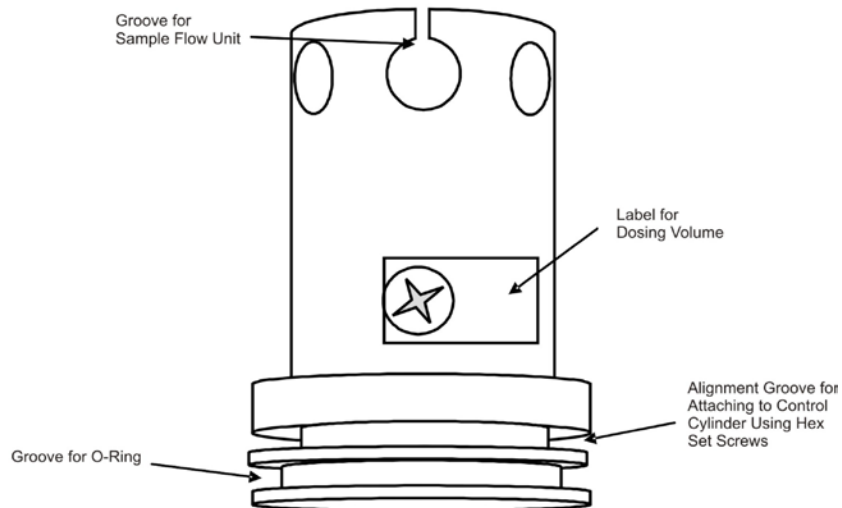

Figure 4-52: Liquid Injection Valve Body
3.	<p>This step is only necessary if using the less common cross-hole stem and should only be executed if the entire valve including the vaporizer is removed from the analyzer.</p> <p>Rotate the vaporizer (16) using a 6mm wrench until the carrier gas inlet (18) is parallel to the sample flow unit (15). The carrier gas should flow through the hole in the stem when injecting.</p>
4.	<p>If the entire valve was completely removed from the analyzer (including the flange and vaporizer), reinstall it at this time, but do not connect control lines, sample lines, or carrier gas.</p> <p>When installing the valve, adjust the valve body (7) so that sample will flow vertically through the valve. This is necessary to prevent bubbles from forming in the valve.</p>
5.	<p>Position the control cylinder (1), and tighten the two hex set screws (2) on the side. The screws must firmly grip the groove in the valve body (5) wall. Refer to Figure 4-52.</p>